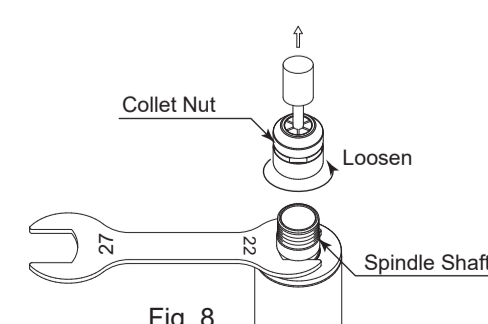

Fig. 8
- Loosen the collet nut with the tool installed as described in section "8. CHANGING THE TOOL". Keep turning the collet nut until it comes out of the spindle shaft together with the tool, and then remove the tool from the collet. (Fig. 8)